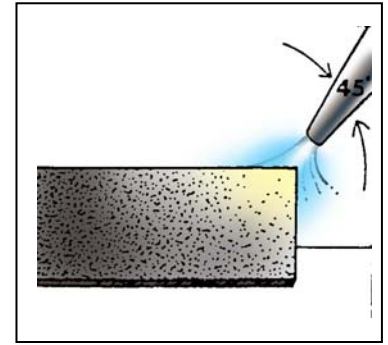

Figure 1
- a. Hold the torch at a 45-degree angle, with the inner flame cone approximately 1/8 in. from the work. Refer to Figures 1 and 2.